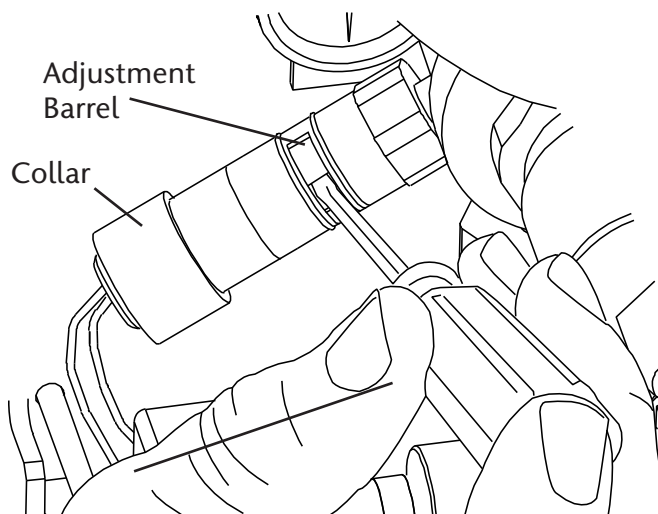

Figure 25
8. If switch adjustment is necessary, slide collar of switch toward wires to access internal adjustment barrel. Insert tip of small screwdriver into adjustment barrel and rotate barrel (Figure 25).